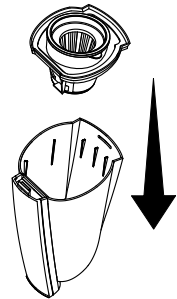

Fig.21
- Insert the spare clean, dry filter into the basket, fit the basket into the dust bin, and reconnect the dust bin to the handheld vacuum cleaner (Fig.21).